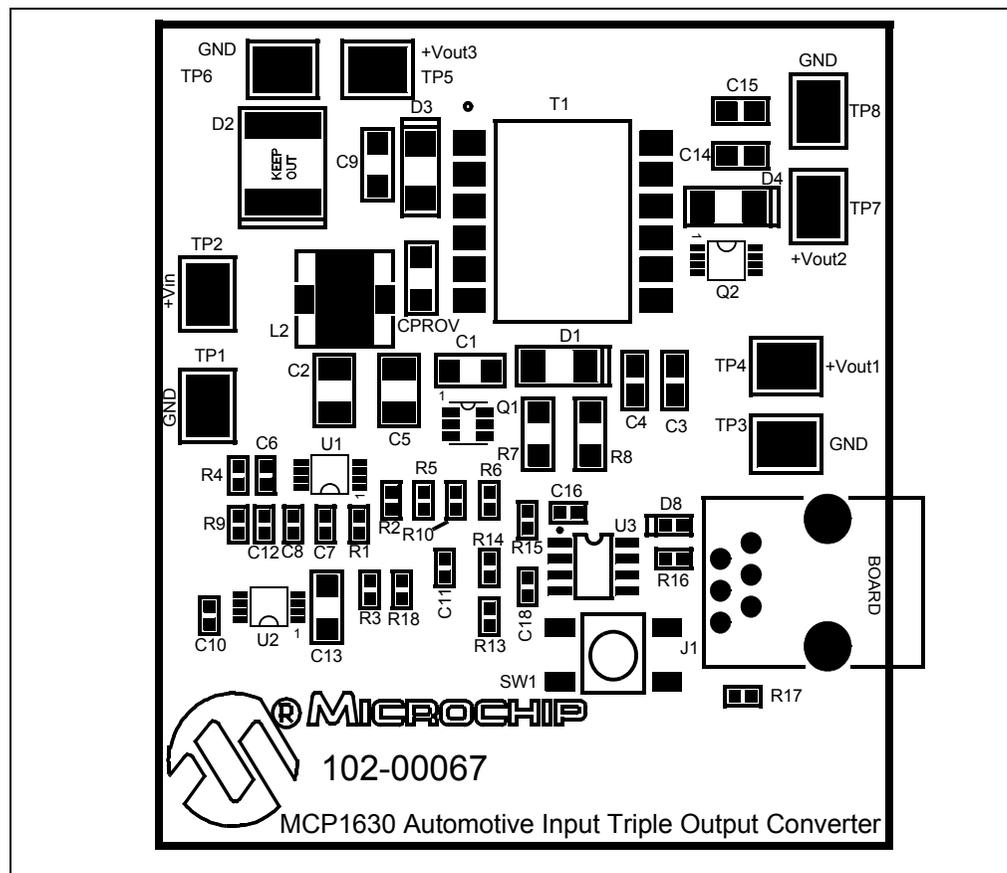

FIGURE 2-1: Setup Configuration Diagram.
1. Connect the positive side of the input source (+) to TP2. Connect the negative or return side (-) of input source to TP1. Refer to figure 2-1. The input voltage should be limited from 6.5V to 40V range. As the input voltage is applied and the system powers up, the firmware program of the PIC12F683 device will initialize and help the converter remain in low-power sleep mode (<0.1 uA) until the SW1 push button is pressed by the user.